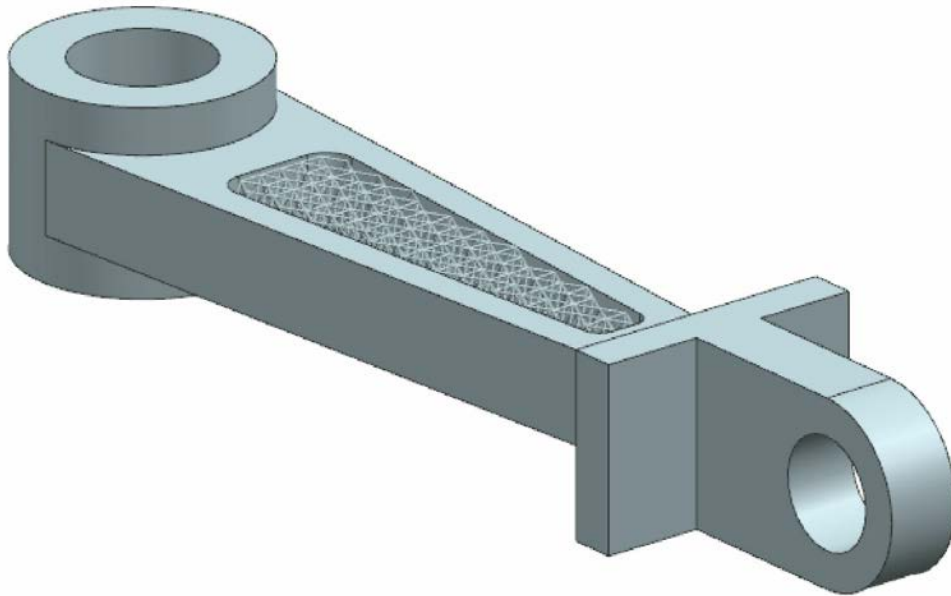
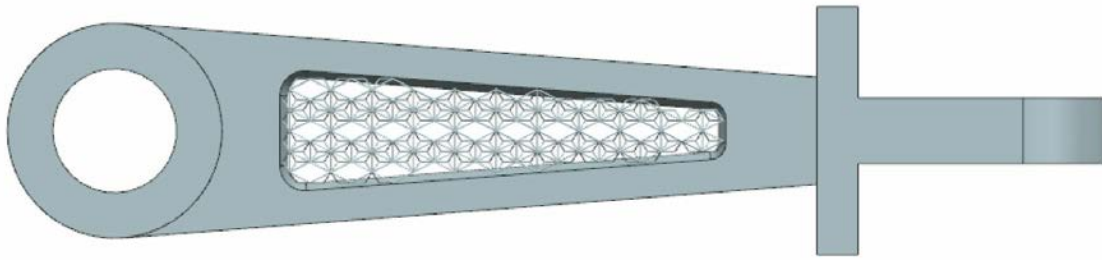

Figure 7-140 Model after creating the lattice
Figure 7-141 Top view of the model after creating the lattice
- d. Create the lattice of the created feature using the **Lattice** tool, refer to Figure 7-140.
6. Next, choose the **Apply** button; the lattice is created, as shown in Figure 7-140. Choose the **Cancel** button to exit the **Lattice** dialog box. Figure 7-141 shows the top view of the model after creating the lattice.